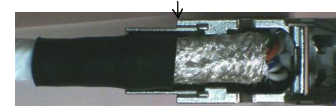
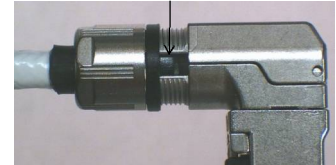

Figure 15
Figure 16
- 13) Check for stray braids, remove as needed. Close the rear body halves together (Fig. 15), install the collett & collett nut onto the rear body, with collett guide located in the slot between rear body shell halves (Fig. 15). Tighten the collett nut until snug (Fig. 16).